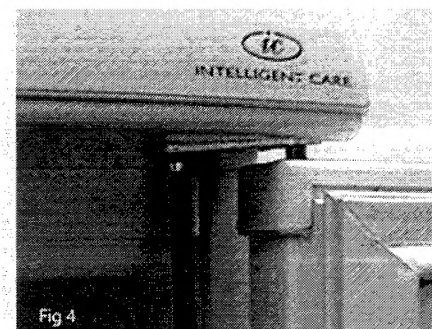

Fig 4
2. Support door, remove and retain screw securing the top right hinge (Fig 4).